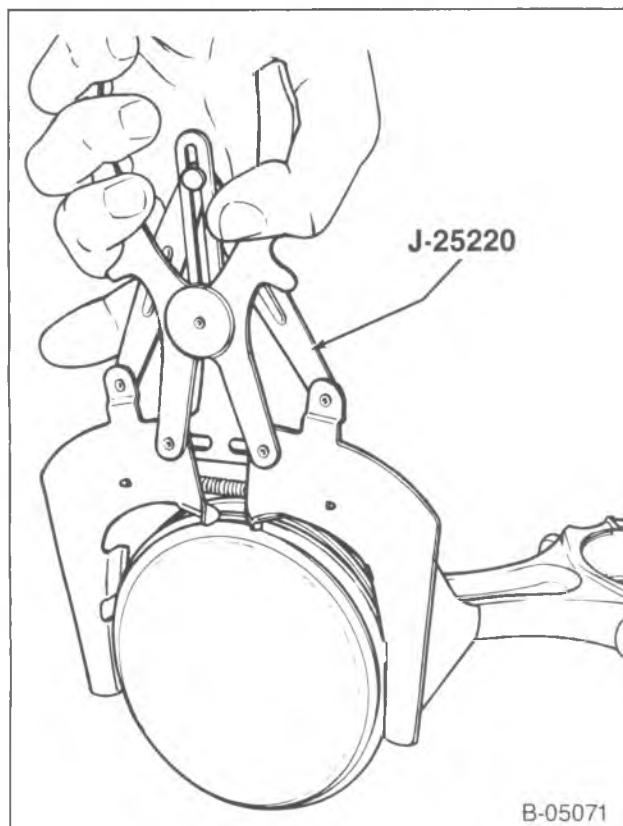

Figure 5—Removing the Piston Rings
1. Piston rings. Use J 25220 (or equivalent) (figure 5). In most cases the rings should be discarded and replaced with new ones at assembly.
Disassemble (Figures 5 and 7)
1. Piston rings. Use J 25220 (figure 5).